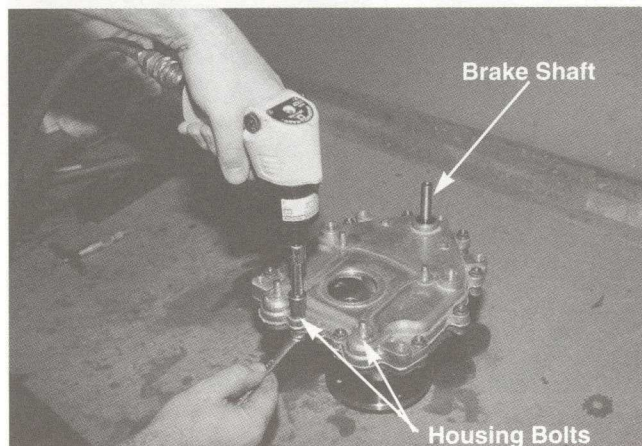

FIGURE 32.
32. Install the housing over the brake shaft, being careful with the seal, align the axle shaft with the bearing and press the two halves together. See figure 32.